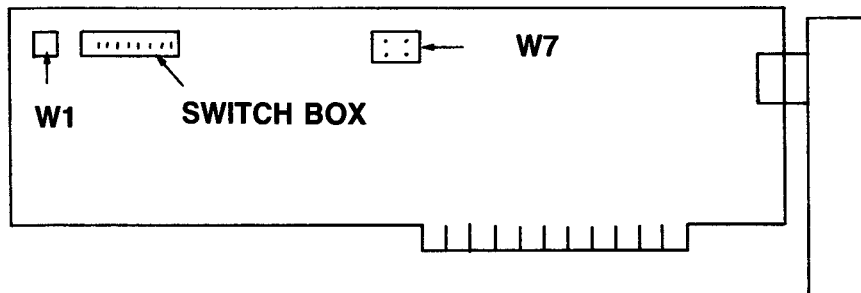

Figure 1 — DGDA Diagram
1. Locate the switch box on the DGDA. (See Figure 1.)